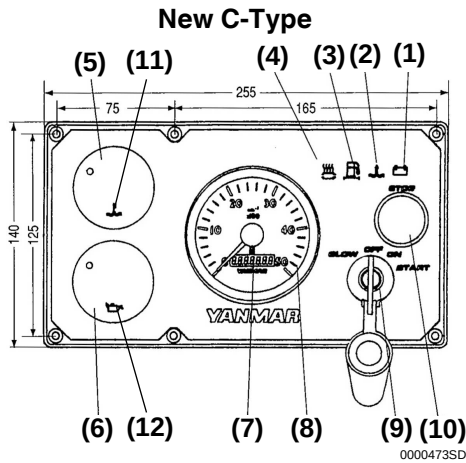

Figure 7
Turn the battery switch on. Turn the key to the ON position and check the lamps on the panel (**Figure 5, Figure 7**) with the engine off:
1. The lubricating oil warning lamp should be illuminated (**Figure 5, 3, Figure 7, 6**) .
2. The cooling water temperature warning lamp should be out (**Figure 5, 4, Figure 7, 5**) .
3. The charge warning lamp should be illuminated (**Figure 5, 1, Figure 7, 1**) .
4. The rubber seal warning lamp should be out (**Figure 5, 2, Figure 7, 2**) .